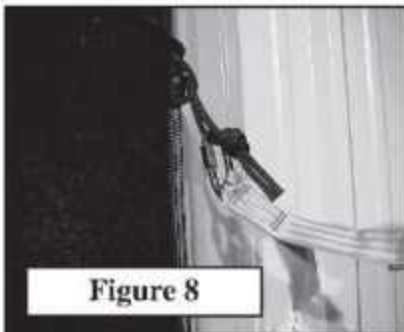

Figure 8
3. Open the prussic hitch loop and insert the harness tether safety clip through this loop as shown in **Figure 8**. **Screw the locking collar COMPLETELY closed to secure the safety clip.**
3. Put the safety rope around the tree and attach the prussic hitch to the safety clip as you did in Figure 8. Screw the locking collar **COMPLETELY** closed to secure the safety clip.